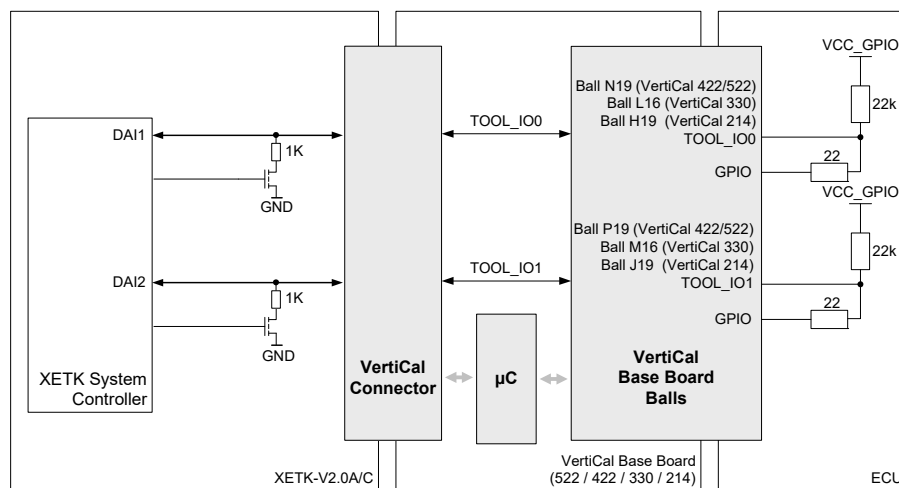
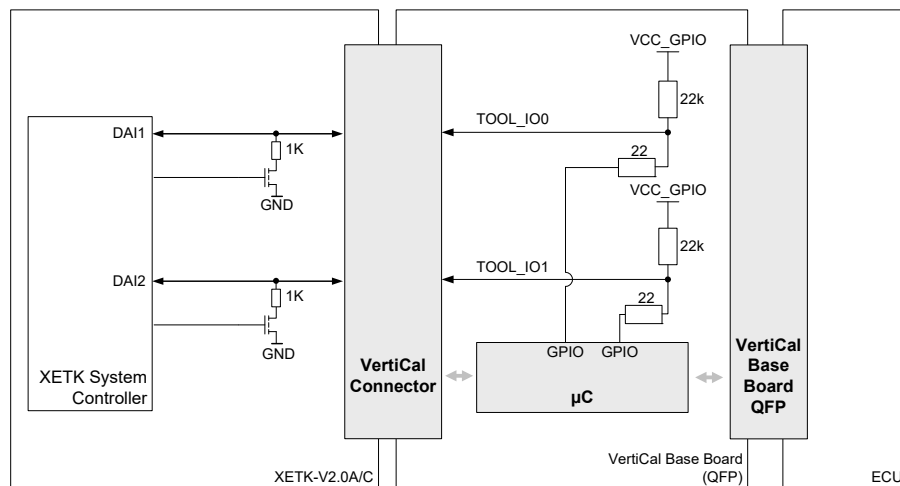
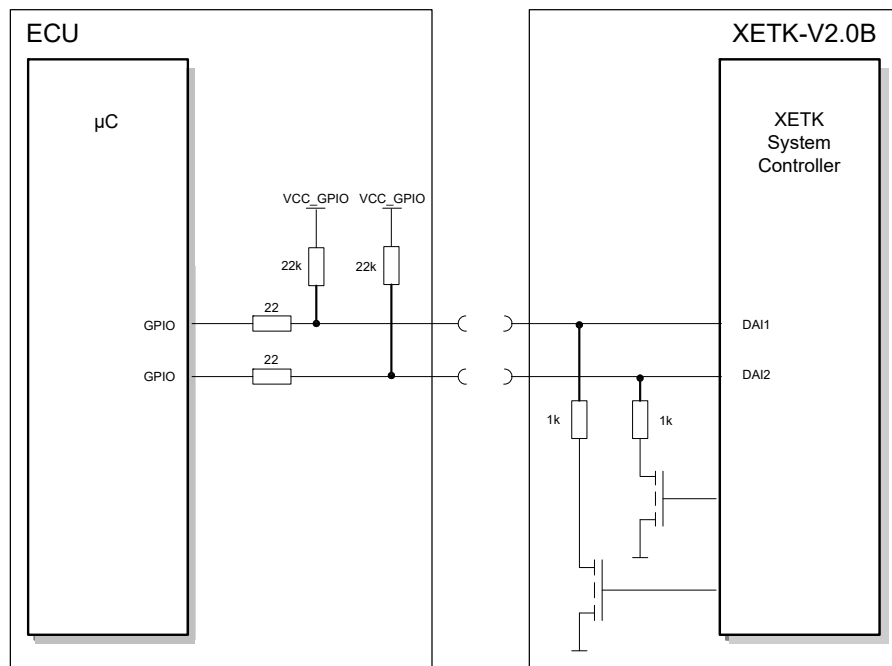

Fig. 4-16 Equivalent Circuitry of the XETK-V2.0A/C DAI Interface via VertiCal (BGA)
Fig. 4-17 Equivalent Circuitry of the XETK-V2.0A/C DAI Interface via VertiCal (QFP)
Fig. 4-18 Equivalent Circuitry of the XETK-V2.0B DAI Interface
The DAI circuitry of the ECU is connected to the XETK-V2.0A/C using the balls TOOL_IO0 (DAI1) and TOOL_IO1 (DAI2) which are present on the BGA VertiCal Base Board equipped with optional balls. Refer to Fig. 4-16 for the required circuitry and VertiCal Base Board package specific ball locations.
- 22 kOhm pull-up resistors on each of the DAI signals (refer to Fig. 4-16) is required; internal CPU pull-up may be used.
The DAI circuitry of the ECU is connected to the XETK-V2.0A/C directly on the QFP VertiCal Base Board. GPIO pins available in the VertiCal Base Board, but unused in the QFP package are utilized for this purpose. Refer to Fig. 4-17 for the circuitry of the QFP VertiCal Base Board package.
- 22 kOhm pull-up resistors on each of the DAI1 signals (refer to Fig. 4-17) is required; internal CPU pull-up may be used.
The XETK-V2.0B uses the same DAI Interface circuitry as other serial (X)ETKs, refer to Fig. 4-18 for the required ECU circuitry.
- 22 kOhm pull-up resistors on each of the DAI signals (refer to Fig. 4-18) is required; internal CPU pull-up may be used.
The required circuitry for the trigger lines DAI1 and DAI2 on the ECU is shown in Fig. 4-16 "Equivalent Circuitry of the XETK-V2.0A/C DAI Interface via VertiCal (BGA)", Fig. 4-17 "Equivalent Circuitry of the XETK-V2.0A/C DAI Interface via VertiCal (QFP)", and Fig. 4-18 "Equivalent Circuitry of the XETK-V2.0B DAI Interface". The two hardware triggers are active low signals.